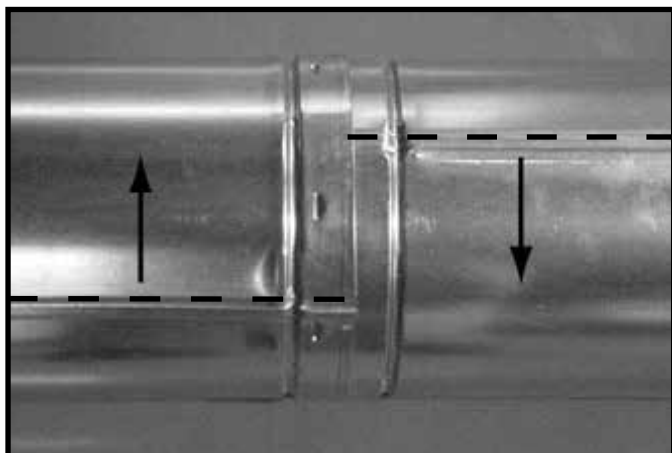

Figure 7.9 Rotate Seams for Disassembly
- Rotate either section (see Figure 7.9) so the seams on both pipe sections are aligned as shown in Figure 7.10.